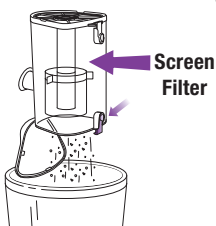

Fig. 22
- If needed, turn the dust cup upside down over the trash receptacle and press the top door release button. **(Fig. 22)** Tap gently to remove contents.